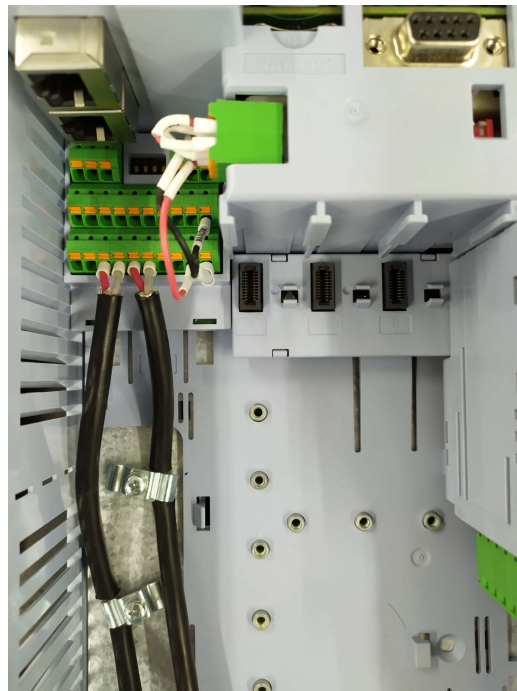

Figure 3.23: Connection example of control cable shield
- Correctly ground the shield of the cables, using the shield connection in 360°, as shown in Figure 3.23.
2. Shielded output cables (motor cables) with the shield connected on both sides, motor and inverter, with low impedance connection for high frequency; for example, see Figure 3.23. Keep the separation from the other cables according to Table 3.9. For more information see item 3.2.4. Maximum motor cable length and conducted and radiated emission levels according to Table 3.18.
3. Ground the inverter as explained in item 3.2.5.